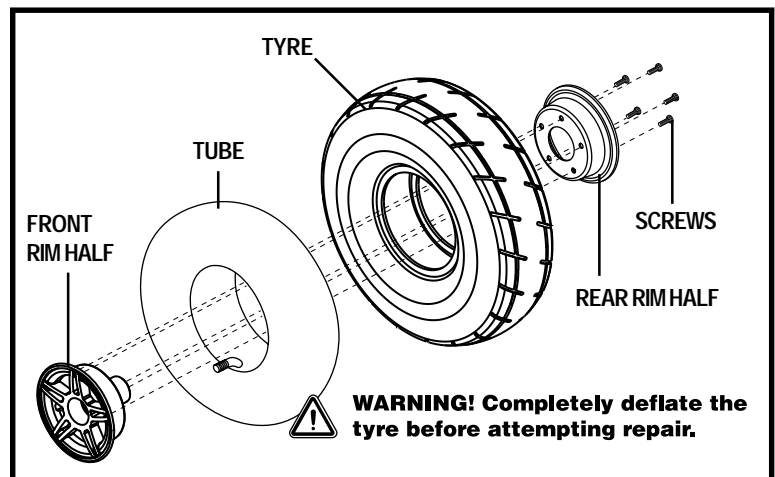

Figure 31. Drive Wheel Assembly
6. Remove the screws that fasten the two rim halves together. See figure 31.